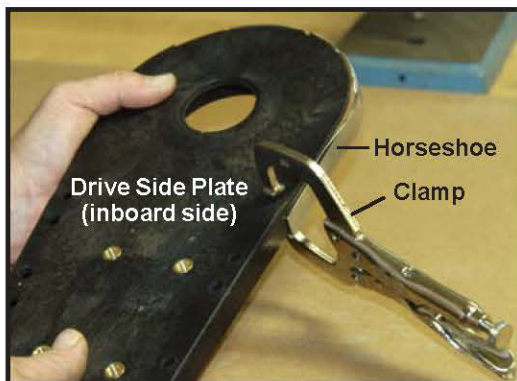

Figure 69
2. Once the horseshoe is fitted onto the Drive Side Plate, attach a clamp to hold it in position (*Figure 69*).